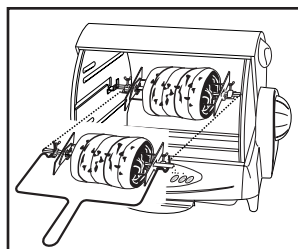

Figure 11
**To remove Rotisserie Bar:** Hold Rotisserie Bar Remover by the handle with the hooks facing up. See Figure 11. Carefully slide the hooks under the cut-outs on the ends of the Rotisserie Bar.